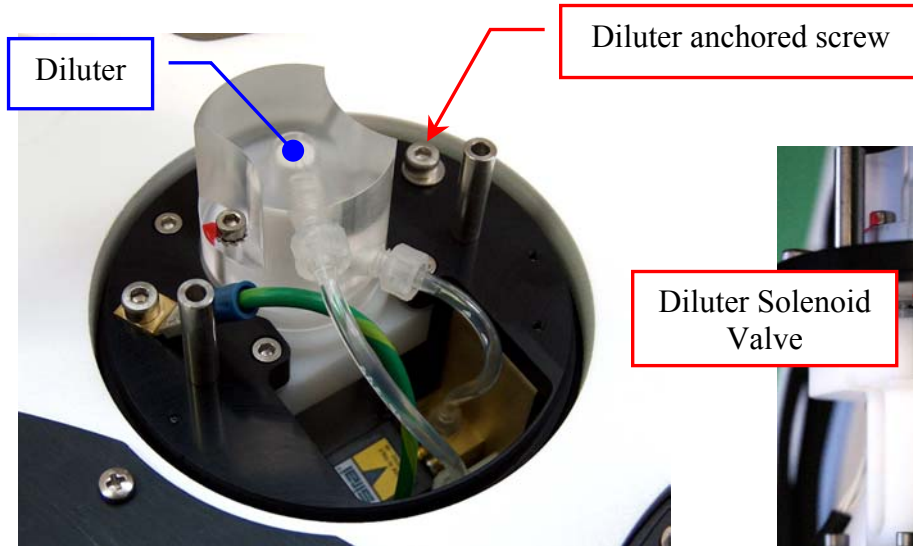

Fig. 15 - Diluter Module (top view)
6. Unscrew the two anchored screws (Fig. 15) and pull out the Diluter Module from its hole.